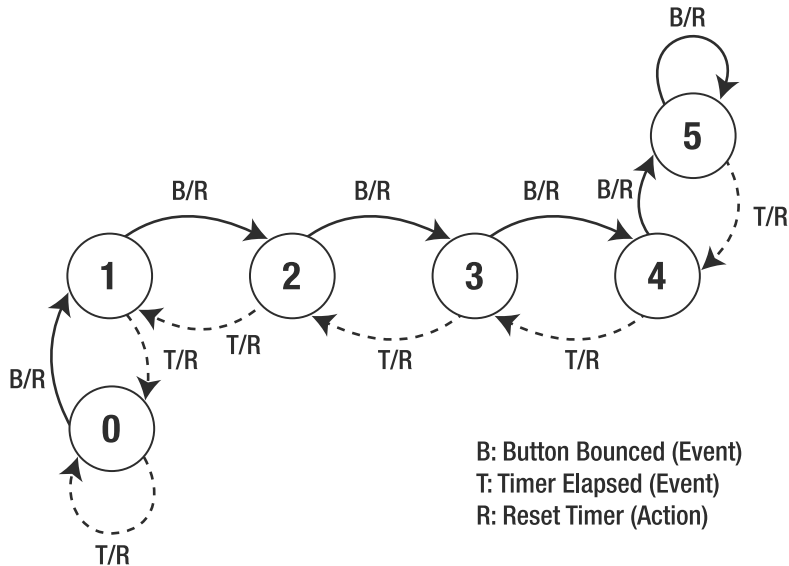

Figure 3-3. *The state diagram of a saturating counter*
Now, I'll show you a simple FSM: a saturating counter. This example is useless for making a robot live and enjoy its artificial life, but don't worry—we'll work on something more “robotic” and useful later in the book. For the time being though, a saturating counter is a counter that stops counting when it reaches its bounds. You certainly can implement this without summoning FSMs, but I'll do it this way, because it serves as a basic clear example. The state diagram for this automaton is shown in Figure 3-3.
Inside the circles, as shown in Figure 3-3, you can see the state names that are just numbers from 0 to 5. On the arcs, there are the labels describing the events (T, B) and the actions (R). Figure 3-3 shows that every state can have more than one transition to other states: as many outgoing arcs as the number of the events possible in that state.